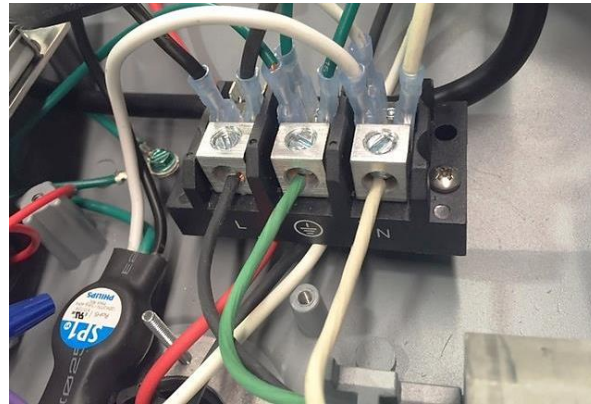

Figure 5
4. Bring the electrical wires into the CitySaver luminaire and connect them to the terminal block inside the electrical compartment. Be sure to connect the line wire to the “L” terminal, the ground wire to the center terminal and the neutral wire to the “N” terminal. (See Figure 5)